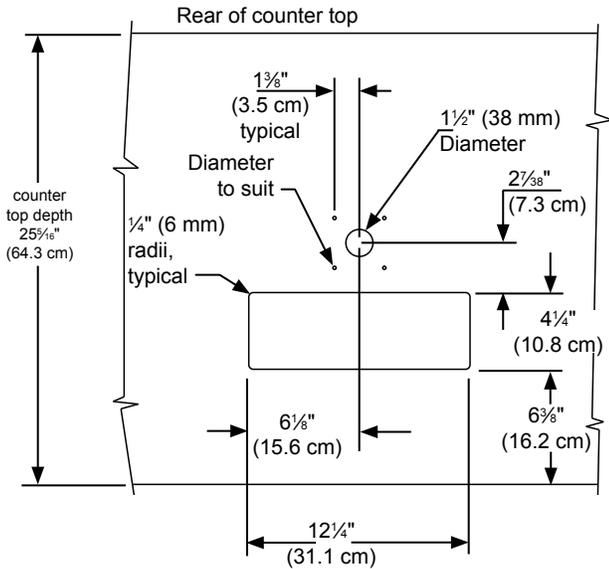

Figure 23
The cutout dimensions shown in Figure 23 are based on a 25 $\frac{5}{16}$ " (64.3 cm) deep counter top. Your counter top may be different than this and require other front to back dimensioning. Refer to the product dimensions on page 8 when determining the required dimensions.
- If you are installing your keg refrigerator under a counter you will need to drill 5 holes in the counter top to mount the tower. The first hole is a 1 $\frac{1}{2}$ " diameter hole located at the center of the tower for the beer line, locate approximately 13 $\frac{1}{2}$ " (34.3 cm) from the front edge of the counter top (based on a counter top depth of 25 $\frac{5}{16}$ "). Next drill the 4 tower mounting holes per the dimensions in Figure 23. The hole diameter is dependent on the counter top material and if screw anchors are required. The screws supplied are in the literature pack and are a #10 x 1" type AB stainless steel screw. Mark and cut the rectangular cutout for the drain sump. After the holes are drilled and the keg refrigerator is in place under the counter top feed the beer line through the tower gasket, the 1 $\frac{1}{2}$ " hole in the counter top and the hole in the top of the keg refrigerator. Mount the tower to the counter top with the 4 screws provided. Place the counter top drain sump, from the literature pack, in the rectangular hole with the radius cutout to the rear around the tower and place the grate in the sump.